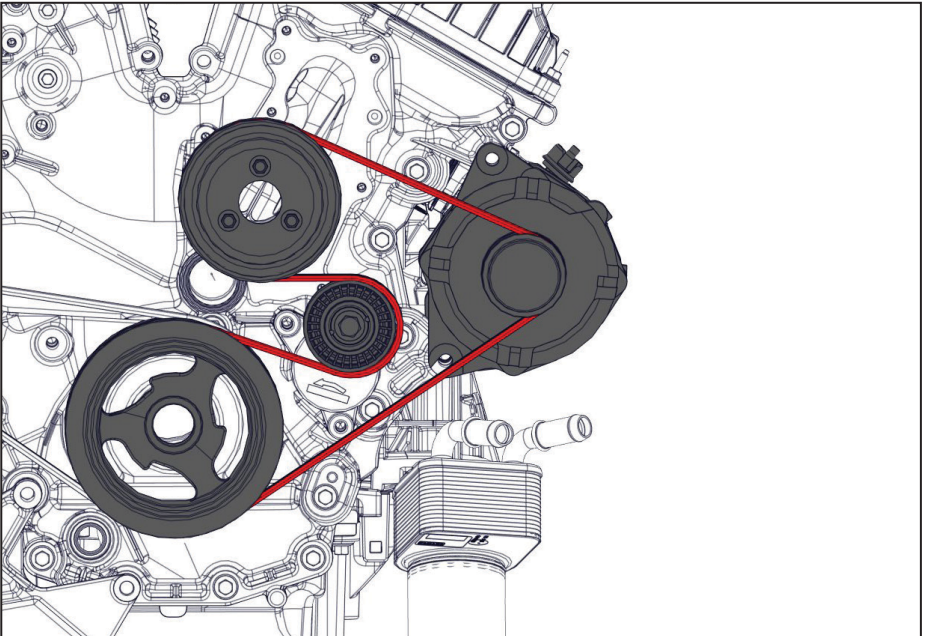

Figure 23 — 6 rib belt routing
- Reinstall and tension the OEM 6 rib belt (Figure 23).